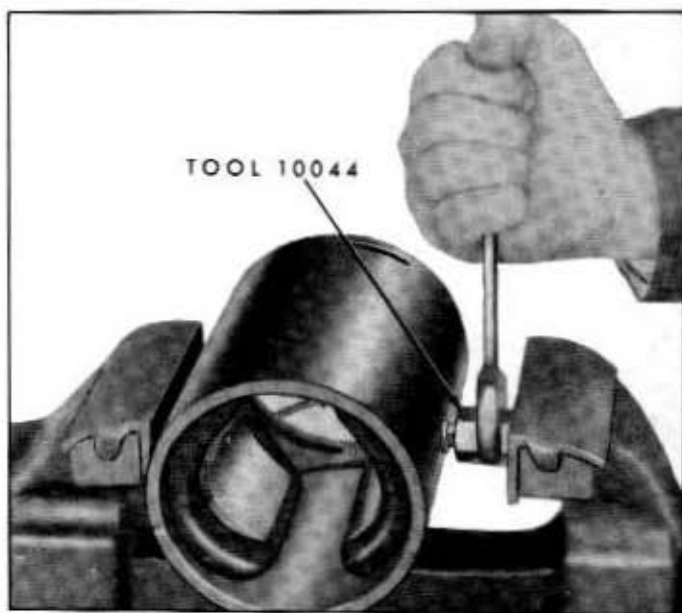

Fig. 9-11—Removing Pole Screws—(60C-7670)
10. To replace field coils, remove the field coil terminal from generator frame. Remove the two pole screws with Pole Screw Remover Tool 10044 by clamping tool and generator frame together in a vise as illustrated in figure 9-11.